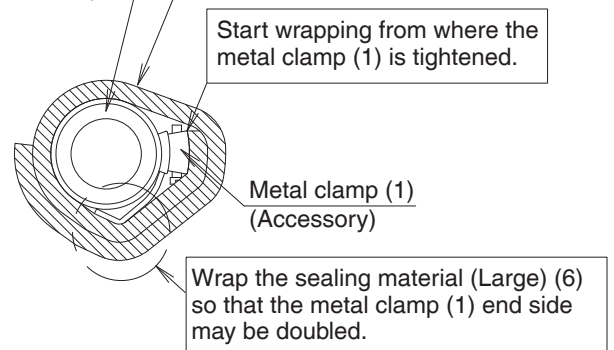

Fig. 19
(3) Sweating may occur and result in water leakage. Therefore, make sure to insulate the following 2 locations (drain piping that laid indoors and drain sockets).
- Use the provided sealing material (Large) (6), and perform the thermal insulation of the metal clamp (1) and drain hose (2) after checking the drainage of water. **(Refer to Fig. 19)**